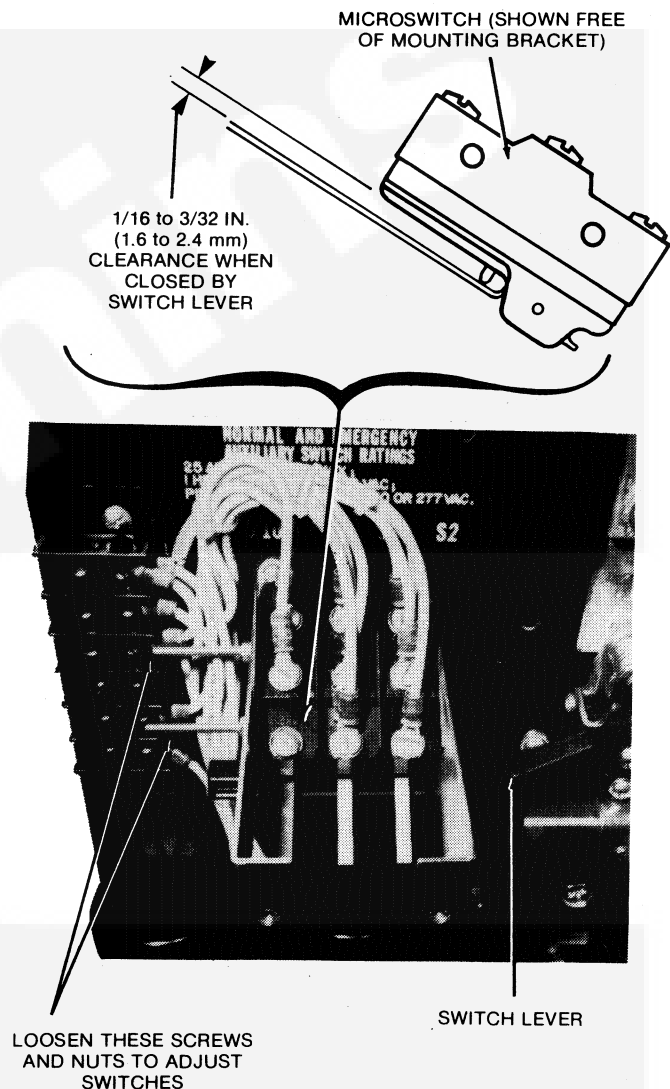

FIGURE 22. MICROSWITCH ADJUSTMENT
8. Loosen the two long mounting screws through the brackets and adjust the switches so that there is between 1/16 and 3/32 inch (1.6 and 2.4 mm) clearance between the actuating lever and the switch body as shown in Figure 22.